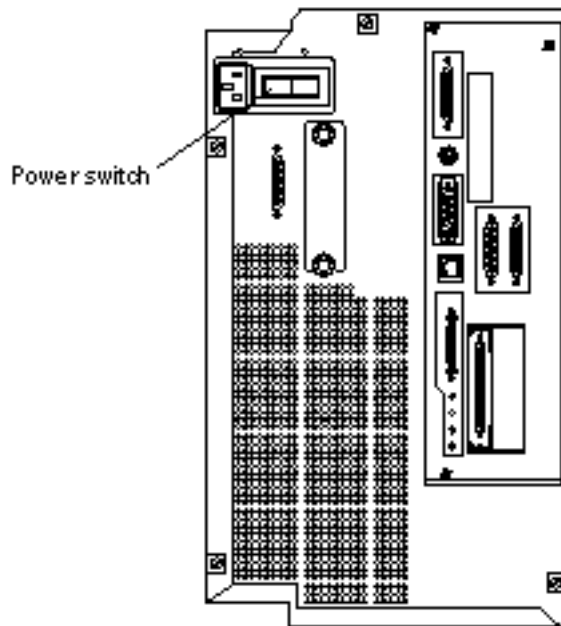

Figure 1-9 Powering On the Netra 150 Server
12. Turn the power switch at the rear of the Netra 150 server to the ON () position (Figure 1-9).